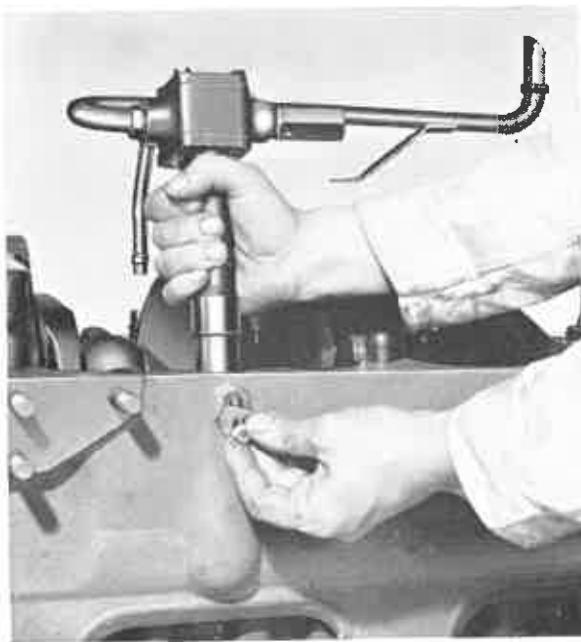

Fig. Q.2. Removing Lubricating Oil Pump.
Lubricating oil pumps incorporate a detachable pressure relief valve which is screwed into the outlet side of the pump body (See Fig. Q.2). The action of this valve is described above, and cleaning instructions are given on page Q.4.
4. Unscrew the lubricating oil pump locating setscrew. This screw is situated outside the cylinder block (See Fig. Q.2).